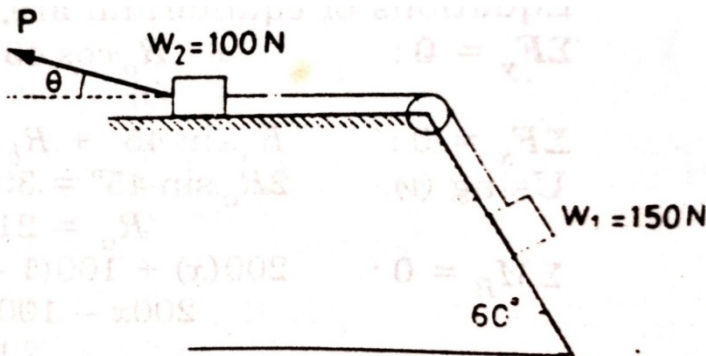

Figure 2.17
18. Two rectangular blocks of weight $W_1 = 150 \text{ N}$ and $W_2 = 100 \text{ N}$ are connected by a string and rest on an inclined on a horizontal surface as shown in Figure 2.17. The coefficient of friction for all contiguous surfaces is $\mu = 0.2$. Find the magnitude and direction of the least force P at which the motion of the blocks will impend.